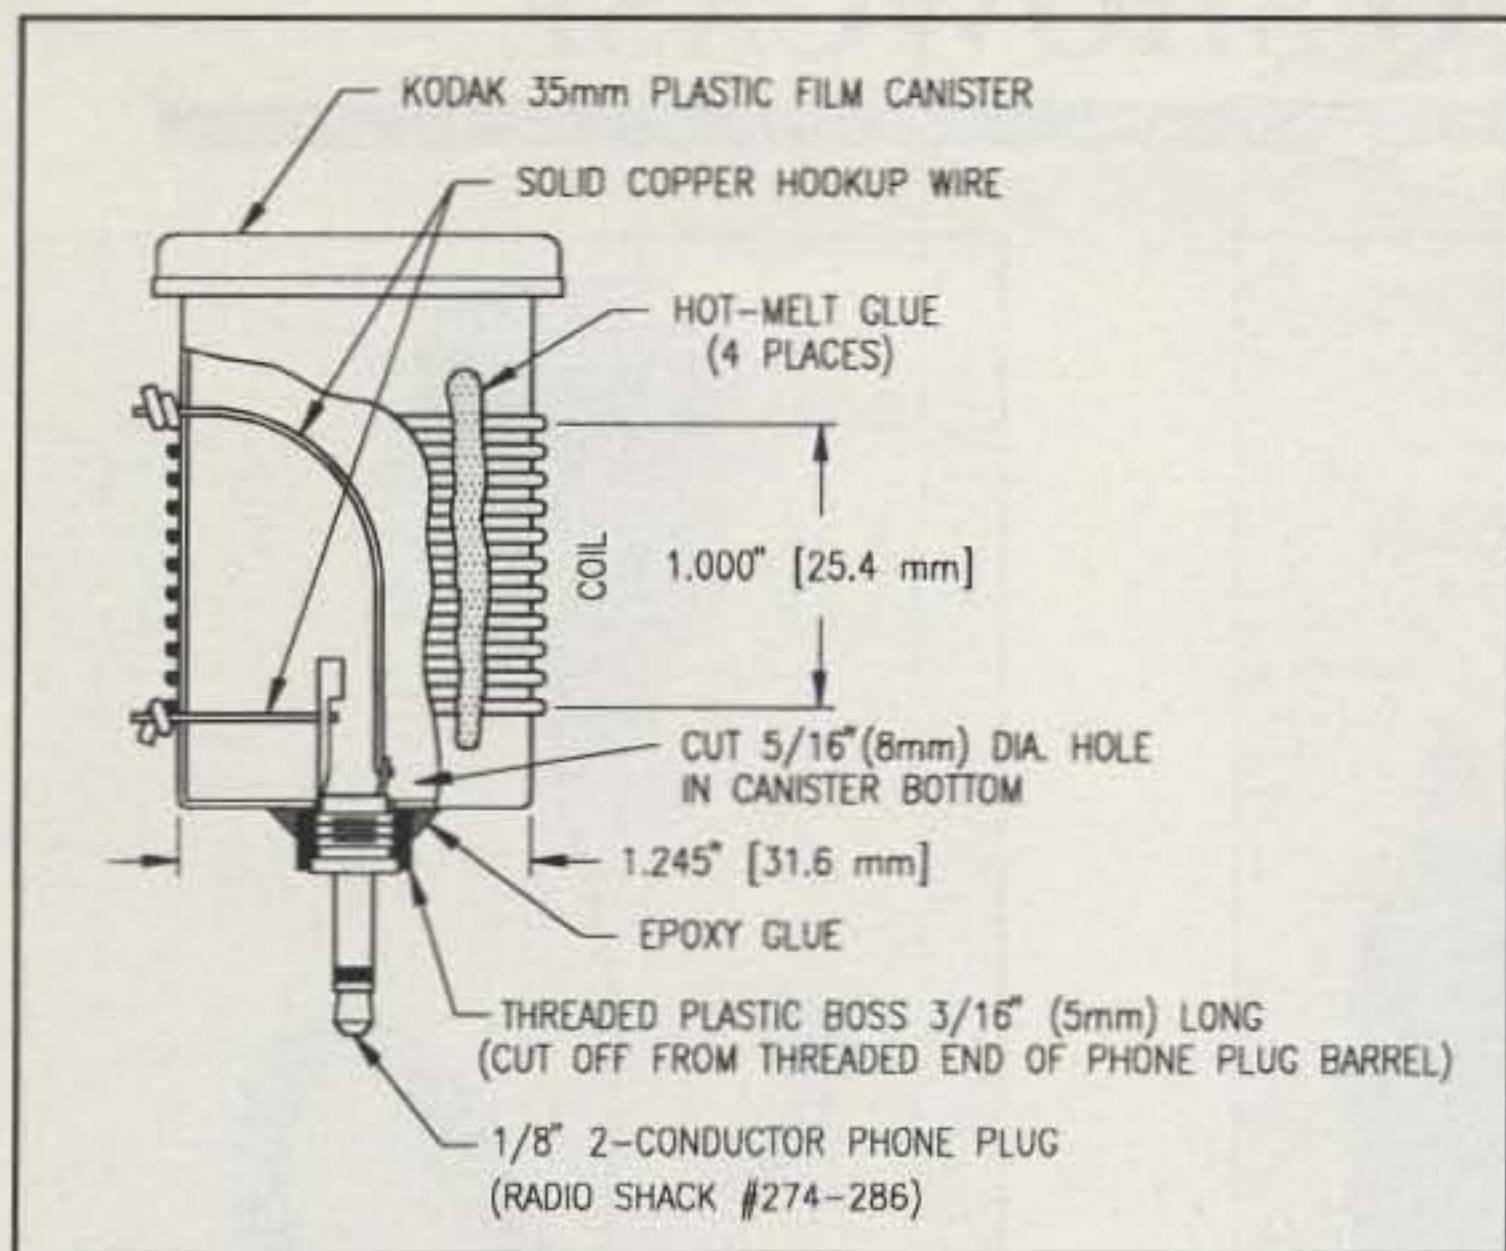

Fig. 2— A typical plug-in coil for QRP use.
Fig. 3— A chart of QRP coil data so that you can wind your own. As you can see from fig. 2, it's a good thing you saved all those film canisters. They do come in handy.
2. The coils shown in figs. 2 and 3 will handle the output of most QRP rigs. For higher power rigs, you may want to use a heavier duty tapped coil and selector switch.